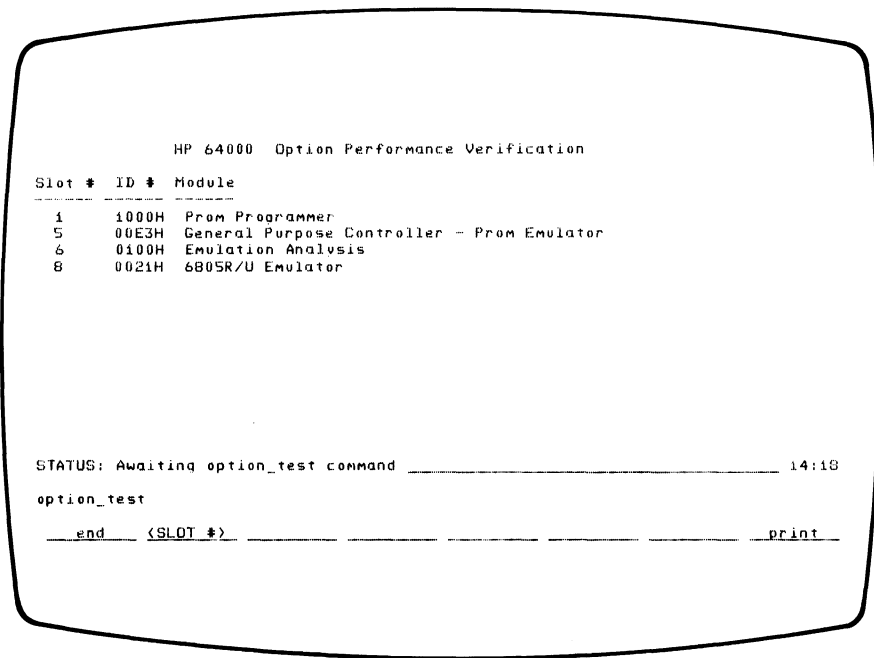

Figure 4-2. Card Cage Directory Display
- b. The PV now displays a directory of the installed option boards and their card slot numbers, figure 4-2. The first step in the PV is to locate the card slot of the Model 64191A 6805 Emulator Controller and enter the slot number. For example, if the emulator controller is in slot 8 of the card cage, enter: